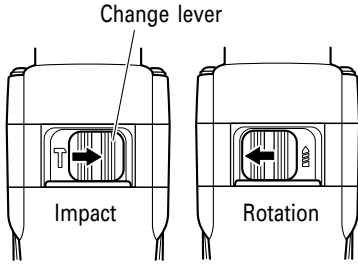

Fig. 8
11. IMPACT to ROTATION changeover (Fig. 8)